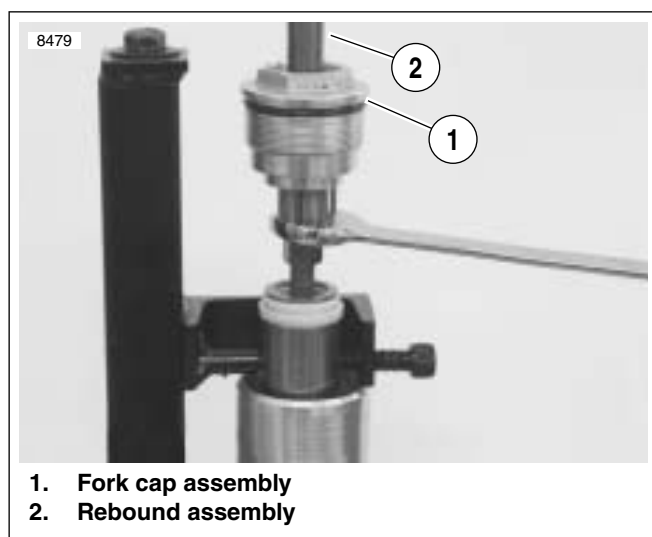

Figure 2-71. Rebound Assembly and Fork Cap Assembly
6. See Figure 2-71. Tighten the damper locknut (10) to 22-30 ft-lbs (30-40 Nm).
21. See Figure 2-71. Hold damper rod assembly (3) and install fork cap (1) on damper rod assembly (3) tightening to 22-30 ft-lbs (30-40 Nm).